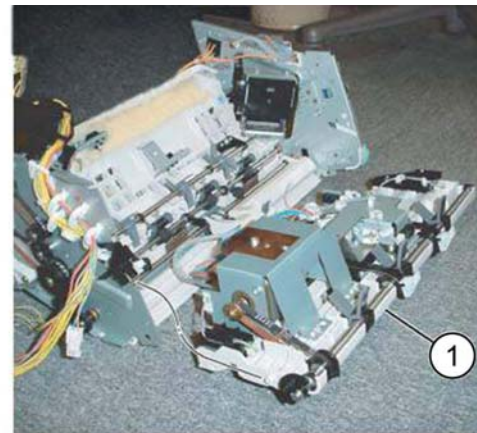

Figure 7 Compiler assembly removal
13. Remove the compiler assembly (1), **Figure 7**.